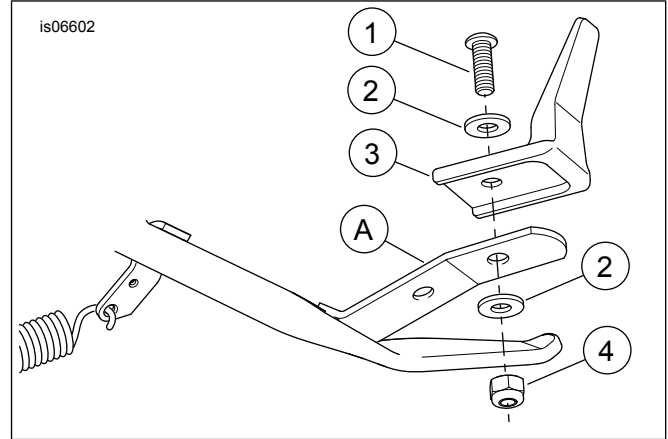

Figure 1. Service Parts: Jiffy Stand Extension
See Figure 1 and Table 1.
1. See Figure 1. Align extension (3) on top of the jiffy stand toe bracket (A). Mark the center of the hole location.
3. See Figure 1. Place extension (3) over jiffy stand toe bracket (A). Fasten extension to the toe bracket with screw (1), washers (2) and nut (4) as shown. Tighten to 8.1–10.8 N·m (6–8 ft-lbs).